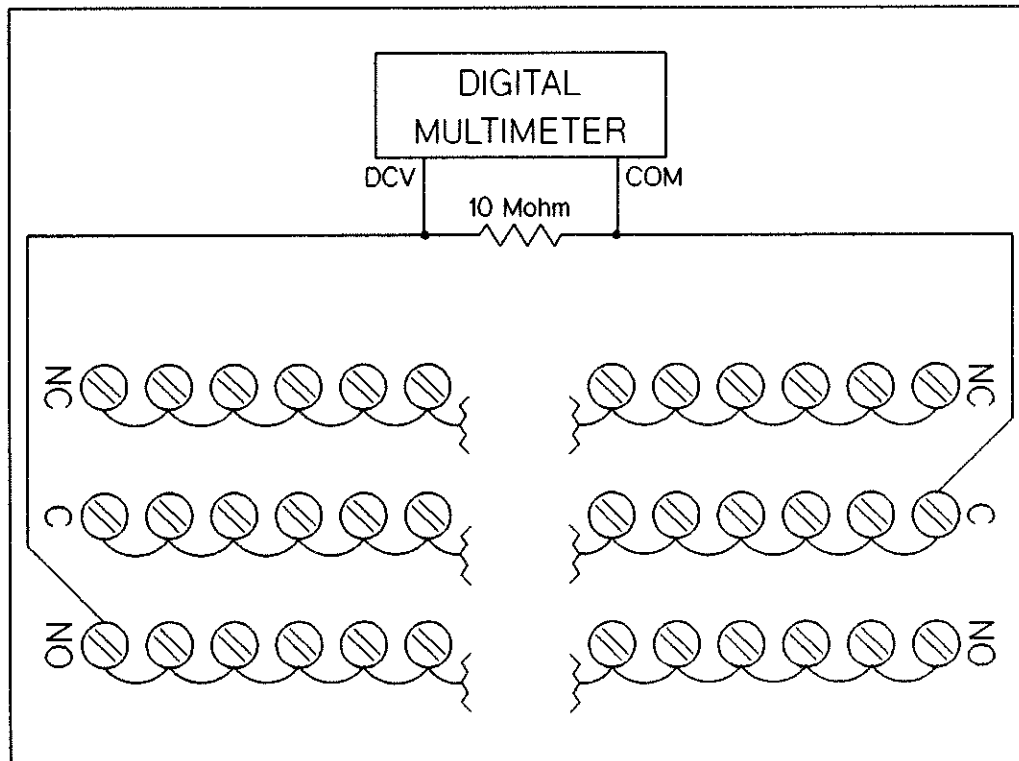
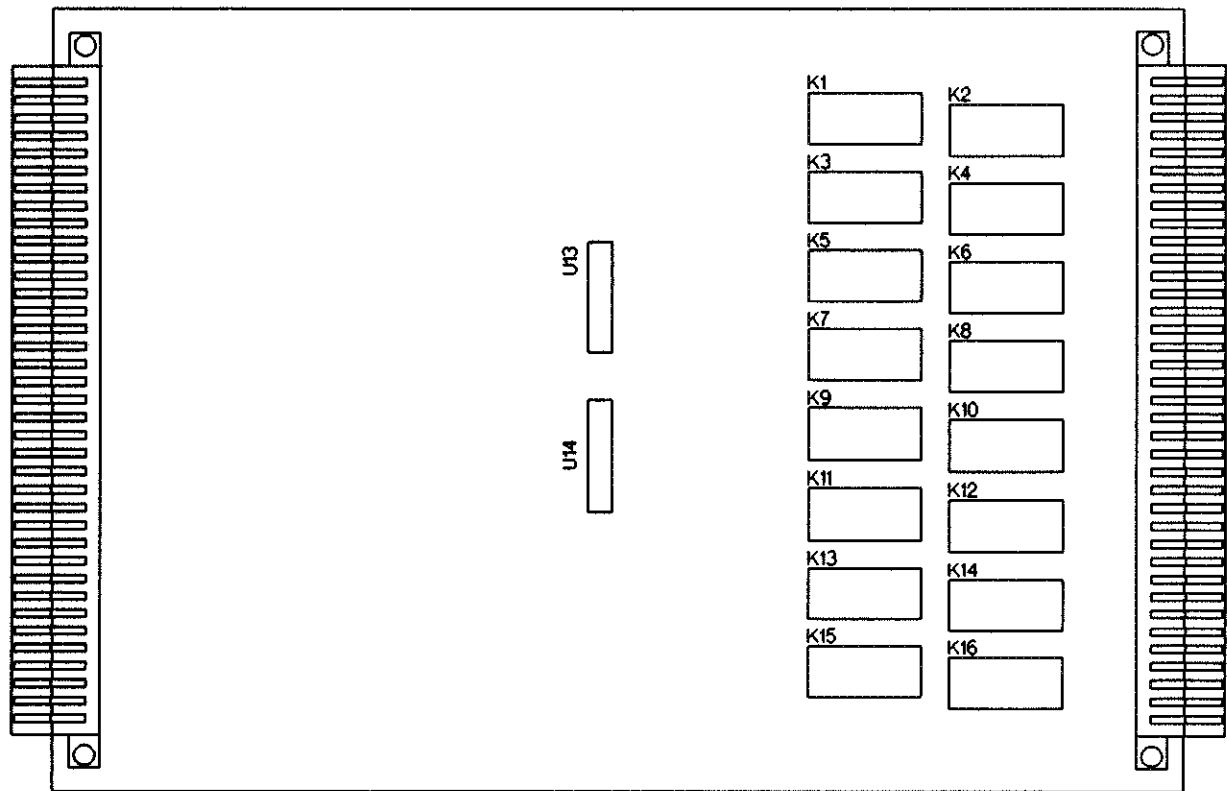
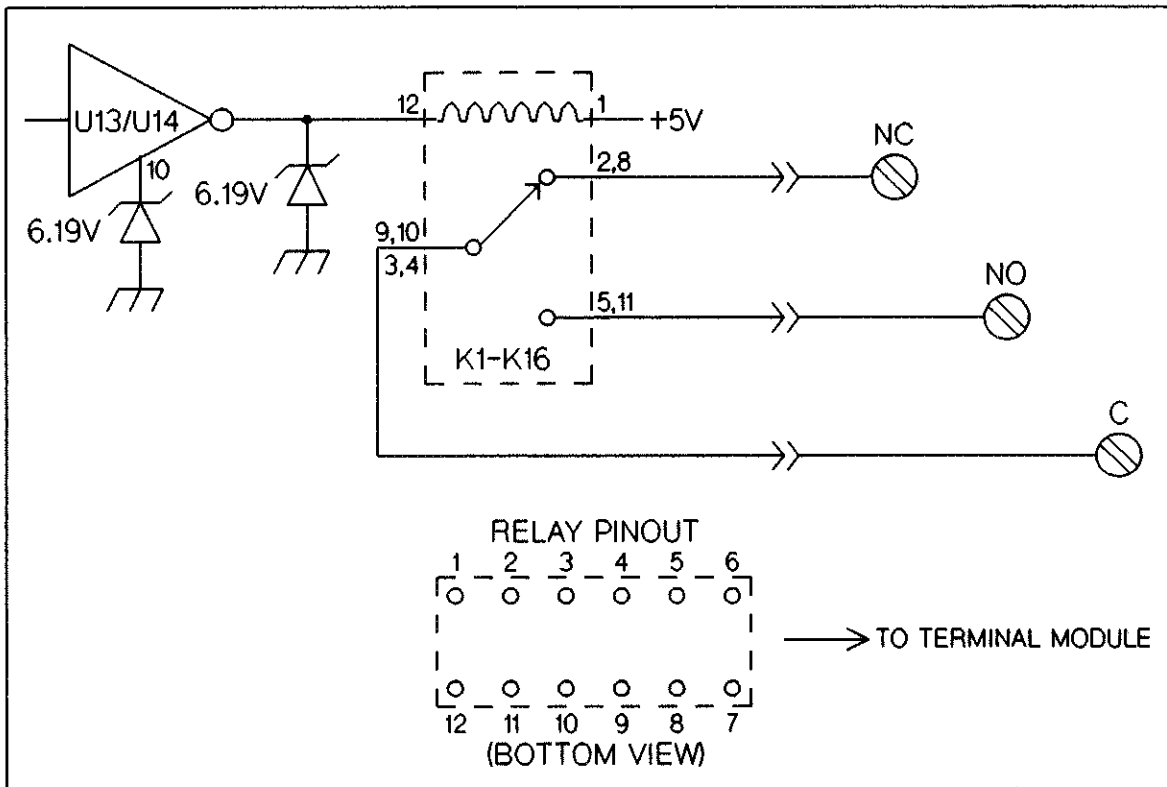

Figure 14-13 HP 44725A NO Channels Injected Current Test
Figure 14-15 Relay Component Locator
Figure 14-16 Relay Simplified Schematic
2. Refer to Figure 14-13. Connect the multimeter DCV lead to the shorted NO lines of the test fixture. Connect the multimeter COM lead to the shorted C (Common) lines of the test fixture.
Figure 14-15 shows the location of the relays on the component module board. Figure 14-16 shows a simplified schematic of one relay and associated circuitry. Since all the relay circuitry is the same, only one relay circuit is shown in the figure. Also shown in Figure 14-16 is a package outline and pinout diagram of the type of relay used. Use both Figures 14-13 and 14-14, and Table 14-4 for the following troubleshooting procedures.